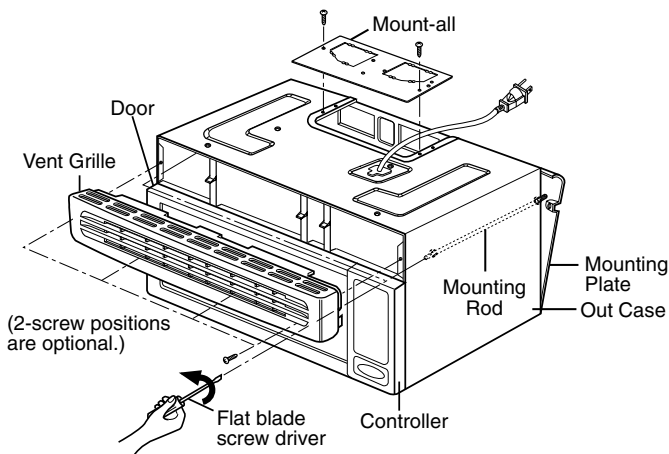

Figure 12
4. Turn two mounting rods counter clockwise with a flat blade screwdriver and remove the mounting plate from the unit. See figure 12.
2. Turn two mounting rods counter clockwise with flat blade screwdriver and remove the mounting plate from the unit. See figure 12.